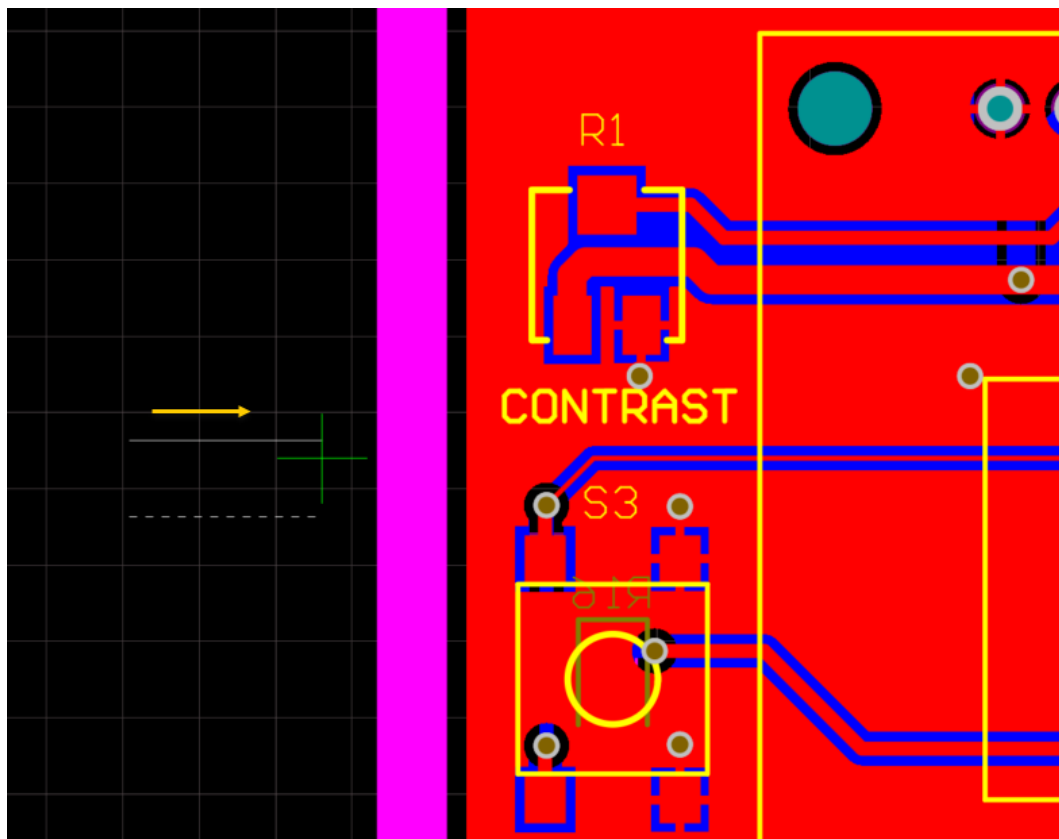

Figure 10. Slice Tracks command near the board edge
- b) Navigate to the first instance of the PCB in the top left corner, just below the pads of R1 as shown in Figure 10.
- d) Start moving your cursor to the right, as shown in Figure 10. You will notice the solid and dotted lines appear, ready to start the slicing of the tracks.